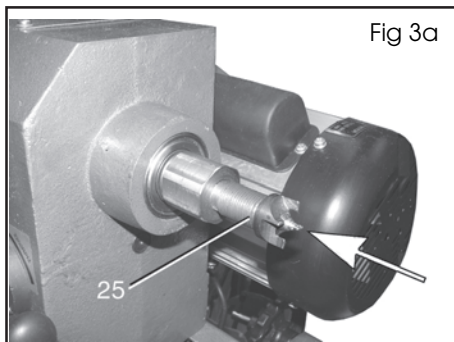

Fig 3a
2. If spur turning is required, insert the headstock spur (25) into the tapered hole in the headstock spindle as shown in Fig 3a.